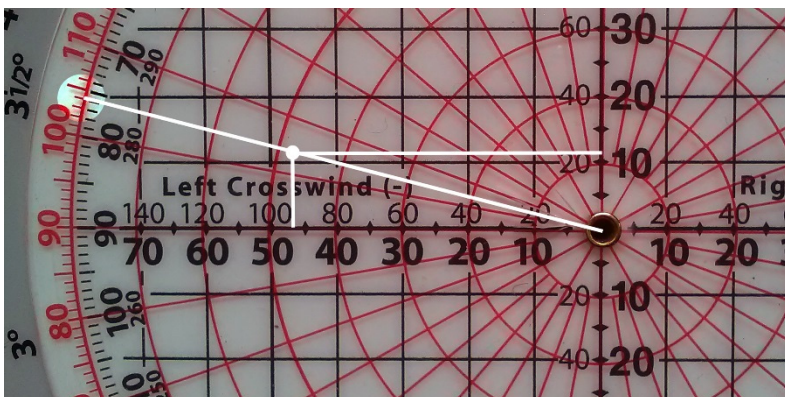

Figure 24.
2. Set 180° at the True Course (TC) index.
4. The crab angle (20) is fairly high; therefore, use “effective” true airspeed. Find 20 on the effective scale and read directly above (132).
5. Determine the difference between effective true airspeed and actual ground speed, which will be the headwind or tailwind component you will find on the computer. In this example, $132 \text{ (ETAS)} - 120 \text{ (GS)} = 12 \text{ headwind}$.
8. Find the point of intersection of the two lines to determine the wind dot. Its position indicates we have an actual wind from 104 true at 48 knots (see Figure 24).